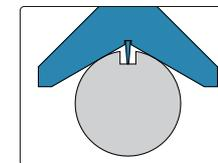

fig.2
---Extend the point into the keyway, adjust appropriately so that the V-shaped frame fits the cylindrical edge completely (fig.2), turn the workpiece slightly to find the maximum value of the meter reading, the maximum value is the depth of the keyway